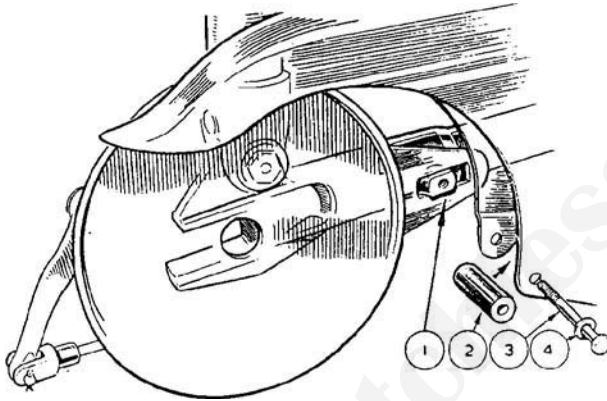

FIG. 77. THE REAR BRAKE COVER-PLATE ANCHORAGE (1955-7, SPRING-FRAME MODELS)
KEY TO FIG. 77
alignment (see page 108); also check the adjustment of the rear brake; (see page 112). When replacing the rear wheel, make sure that the speedometer-drive dogs engage properly before tightening the cable gland-nut (5). Defer tightening the nut (8) locating the speedometer-drive gearbox (4) until the driving cable has been connected up, and the hub-spindle nut (11) has been tightened. Also make sure that the brake cover-plate anchorage is correct (See Fig. 77).